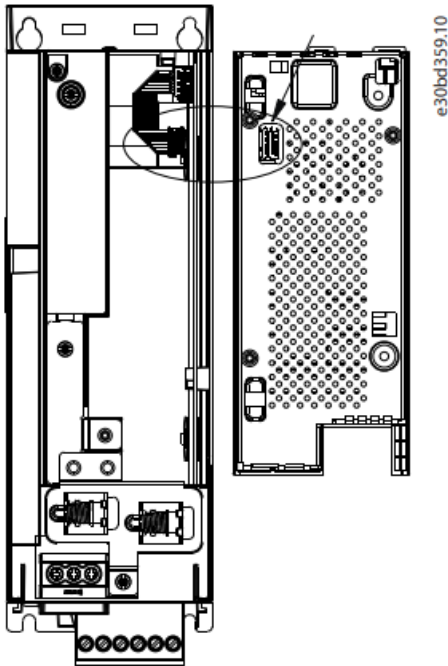
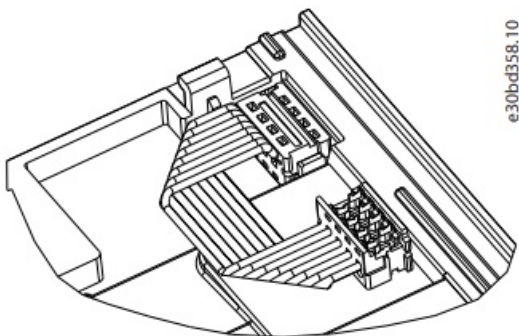

Figure 1: Connection Point on the Control Cassette
Figure 2: Bend the Connection Cable
2. Connect the control cassette with the drive as shown in Figure 1, bending the cable as shown in Figure 2.